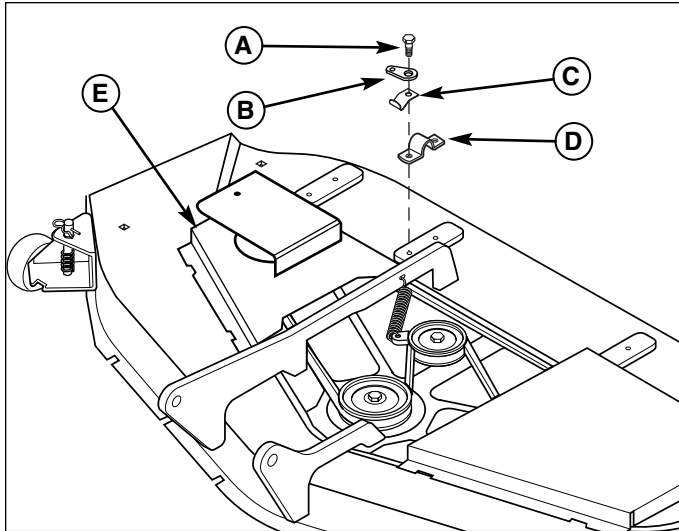
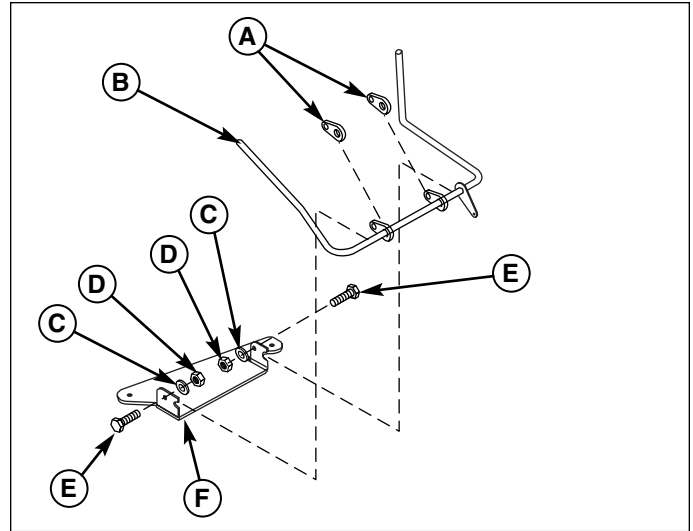

Figure 3. Install Cover & Spring Anchor
Figure 4. Assemble Hinge
1. Locate the taptite screw (A, Figure 3) securing the inner right-hand belt cover spring clip (C). Remove the taptite screw (A).
2. Install the spring anchor (B) above the belt cover clip (C) and secure using the original taptite screw (A).
3. Install the new right hand belt cover assembly (E) using the original taptite screws removed in Step 1.
4. Assemble the hinge rod (B, Figure 4) and hinge bracket (F). Secure using the rod anchors (A), 1/4-20 x 5/8 capscrews (E), lockwashers, and nuts as shown.